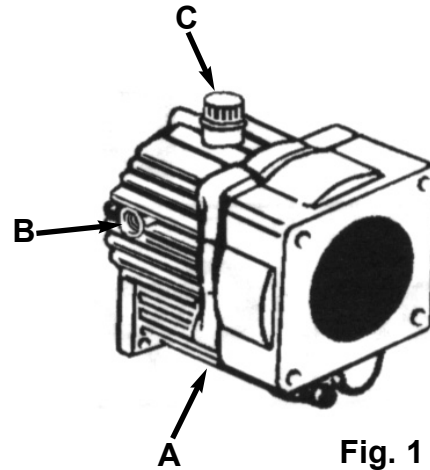

Fig. 1
1. When changing oil in the Reducer, remove the drain plug (A) located on the bottom of the Reducer. (refer to Fig. 1) After the oil has completely drained, replace drain plug(A) and tighten. To fill, remove side level plug (B) and vent plug (C). (refer to Fig. 1) Fill until the gear lube is no higher than the mark on the dipstick. After proper oil level has been obtained replace plugs.